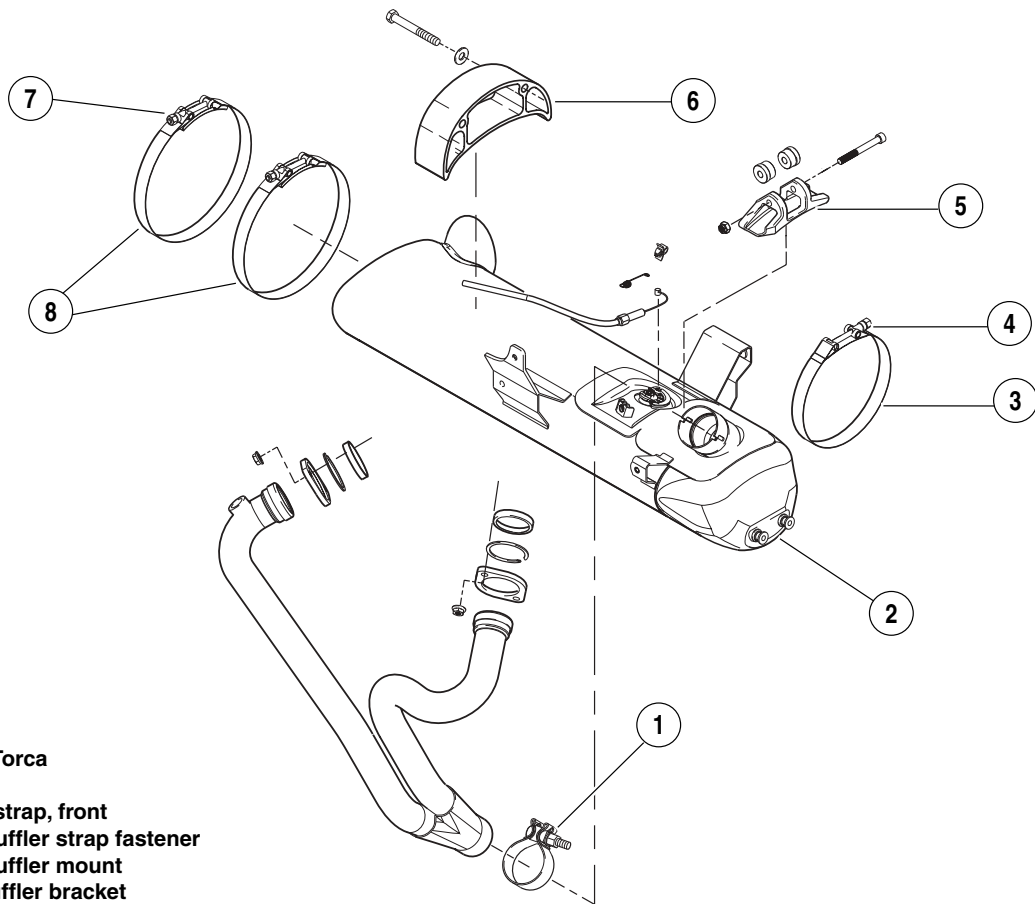

Figure 3-53. Muffler and Mounting System
36. See Figure 3-53. Install muffler. See 2.28 EXHAUST SYSTEM.